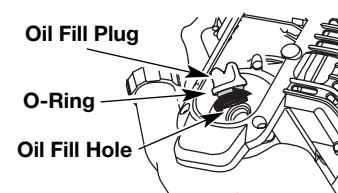

Fig. 23
**NOTE:** Make sure the O-ring is in place on the oil fill plug when checking and changing the oil (Fig. 23).